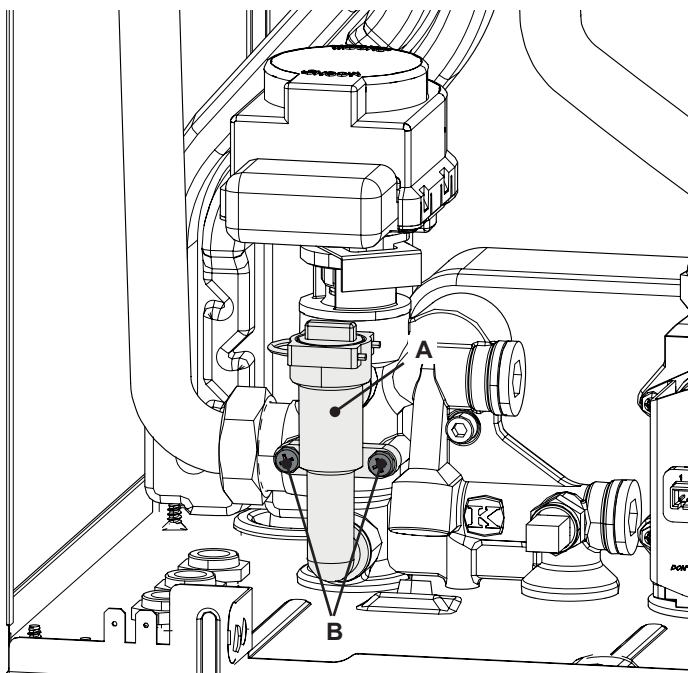

Figure 16.2
- 3 Unscrew the screws "B" and pull the by-pass valve "A" (Figure 16.2).
- 4 Reassemble the by-pass valve as illustrated in Figure 16.2